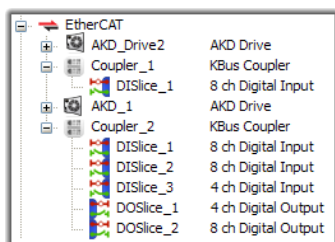

Figure 4-11: EtherCAT Network - Logical View
- Map them to items under the EtherCAT node of the Project Explorer (see "Figure 4-11: EtherCAT Network - Logical View " on page 198)